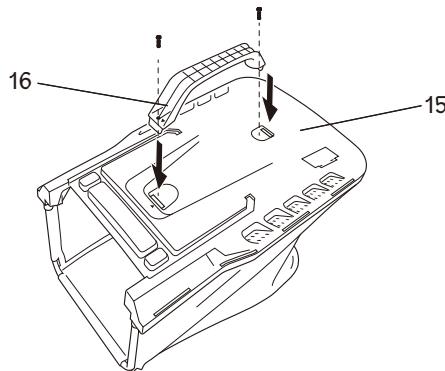

FIG.6
1. Align and insert the carry handle (16) to the slots of top frame of grass catcher (15) until handle clicks into place (Fig. 6).then use screw to fix handle both sides.